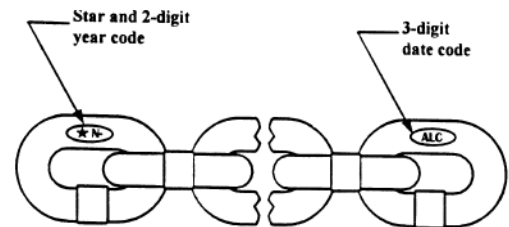

Figure 22. Chain Embossing
1. Use a grinder and nick the link on both sides (Figure 22), then secure the link in a vise and break off with a hammer.